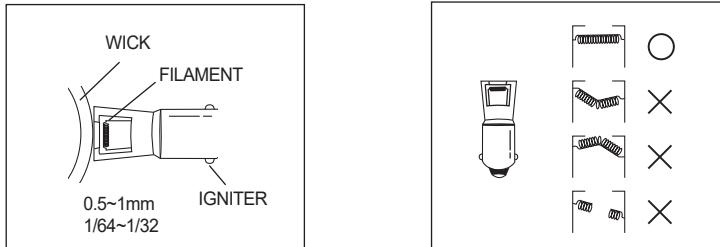

Fig. 10
**NOTE :** Do not use excessive force when pushing the ignition button. This can cause the igniter to catch the wick and may prevent ignition from occurring. Pushing too lightly on the Ignition button can prevent ignition from occurring by keeping the igniter too far **from** the wick. As Fig. 10 (Page 9) shows, the optimal distance between the igniter and the wick is 1/64- -1/32 inch (0.5 to 1mm). If it is difficult to ignite the heater, the filament on the igniter might be bent, broken or misshaped.
If the automatic ignition system does not work, check the filament on the igniter (see Fig. 10) (page 9) to see if it is broken or misshapen. A small distortion can be fixed with a match stick. If the filament is stretched or broken, replace the igniter with a new one. **NOTE: Remove the batteries before replacing the igniter.** Refer to section "CHECKING THE IGNITION SYSTEM" on page 3 for instructions on how to replace the igniter.